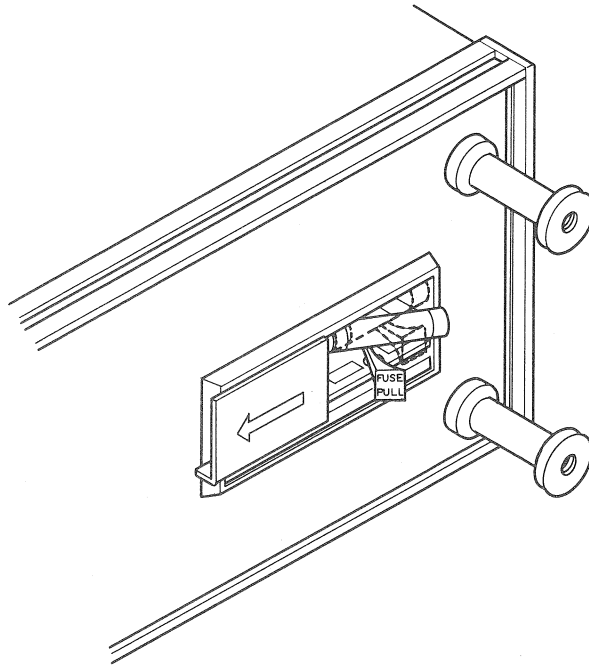

Fig. 6 When the tab (FUSE PULL) has been pulled and the fuse removed
- 2) When the cover opens, a black plastic hook marked FUSE PULL can be seen in front of the fuse. When the hook is pulled straight out, the fuse is released from the right-hand clip. (See Fig. 6)